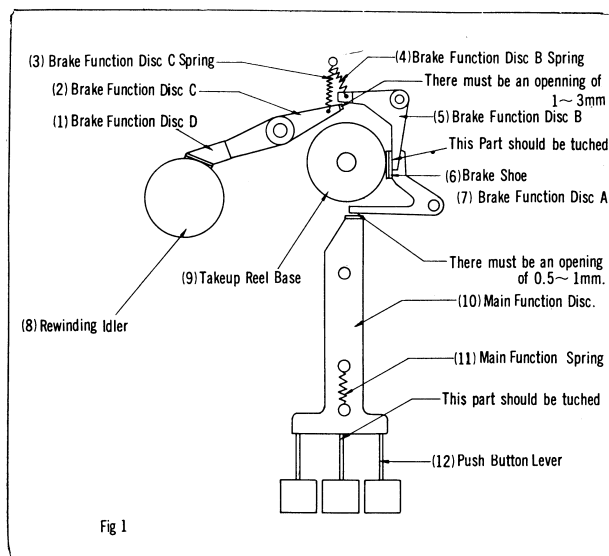

Fig 1
- (1) The Main Function Disc (10) must be connected to Button Lever (12) for Playback, Rapid Forward, and Rewinding. Should there be an aperture, it is necessary to move the Main Function Disc Spring (11) closer. (Fig. 1)